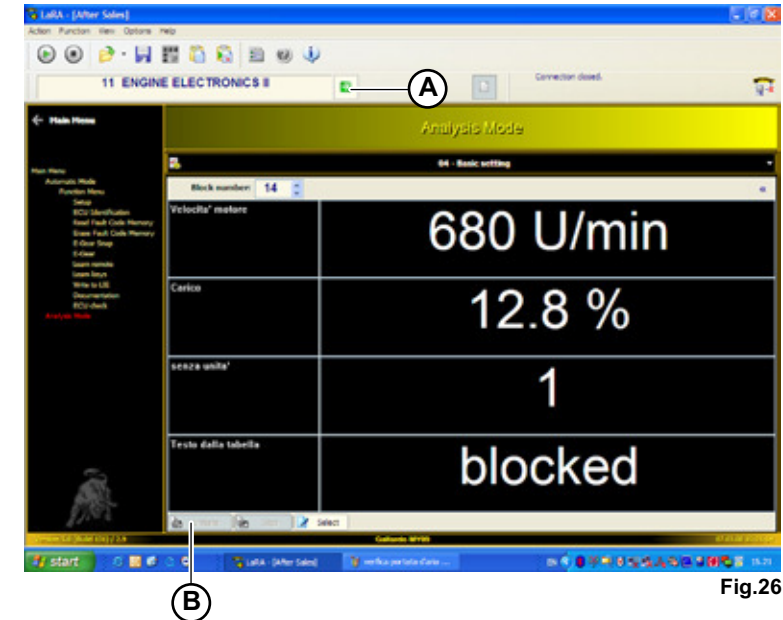

Fig.26
- Select routine 14 inside the block number (**A-Fig.26**) on the SLAVE "11" control unit.
- Start the connection () and press the start push-button (**B-Fig.26**).